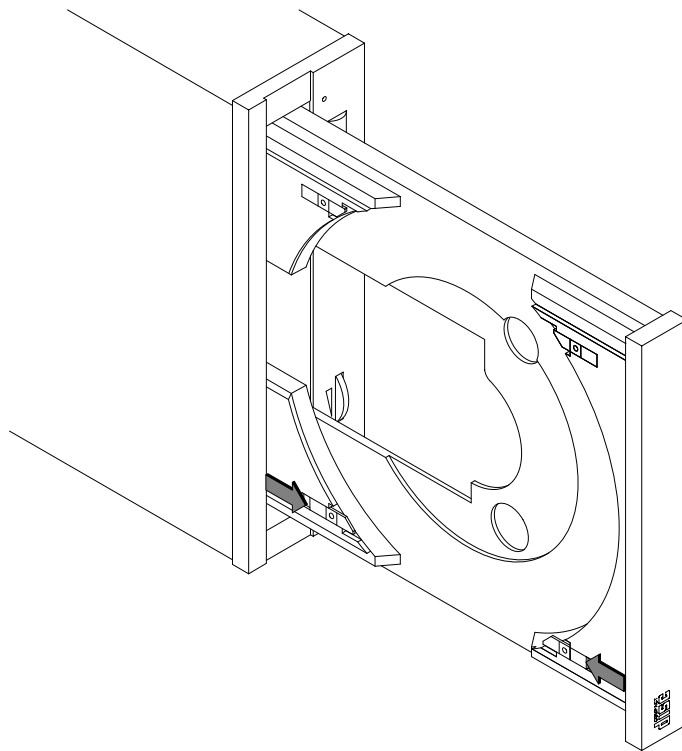

Figure 2-5. Positioning the Bottom Disc Holders (Vertical Mount)
1. Slide the two disc holders at the bottom of the tray towards each other until they snap into place, as shown in Figure 2-5.